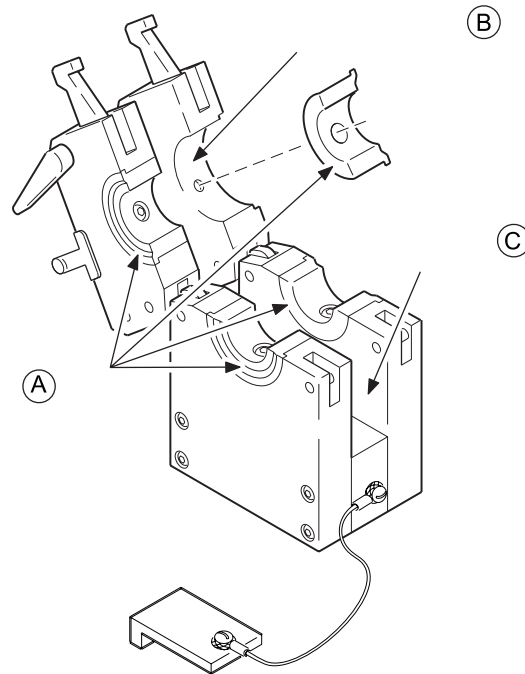

Figure 21 Cleaning the Collets and Collet Mounting Surfaces
1. Inspect and clean the collets. See Figure 21(A).
4. Remove any oxides from the non-anodized mating surfaces of the side plates with a fine-grit abrasive pad. See Figure 21(B).
5. Remove any dirt and oxides from the inside surfaces of the side plates with a clean, soft cloth. See Figure 21(C). Remove heavier deposits with a fine-grit abrasive pad.